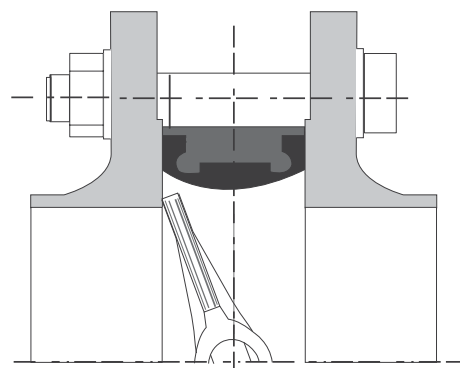

Figure 3: Incorrect installation
- Locking of the butterfly disc (see figure 3).